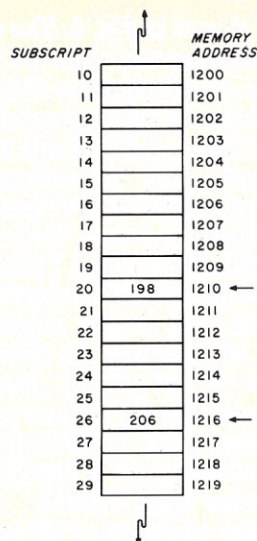

Fig. 2. Configuration of array in memory with examples of STORE and RECALL operations.
As an example, say that the lower bound is 10 (all numbers are decimal values), the upper bound is 29 and the base address in memory is 1200. The upper and lower bounds define an array of 20 elements. If the subroutine STORE(N) is called and the parameter N=20 and DATA=198 is passed to the subroutine, the computer would first compare the subscript 20 with the lower bound of 10 and the upper bound of 29, find the subscript in bounds and proceed to compute the address of element #20 in the array. It does that by adding the base address 1200 to the subscript 20 and subtracting the lower bound of 10. The result of this operation is 1210. The data, 198, is then stored in memory location 1210 through some form of indirect addressing. As shown in Fig. 2, this is indeed the correct location in memory.